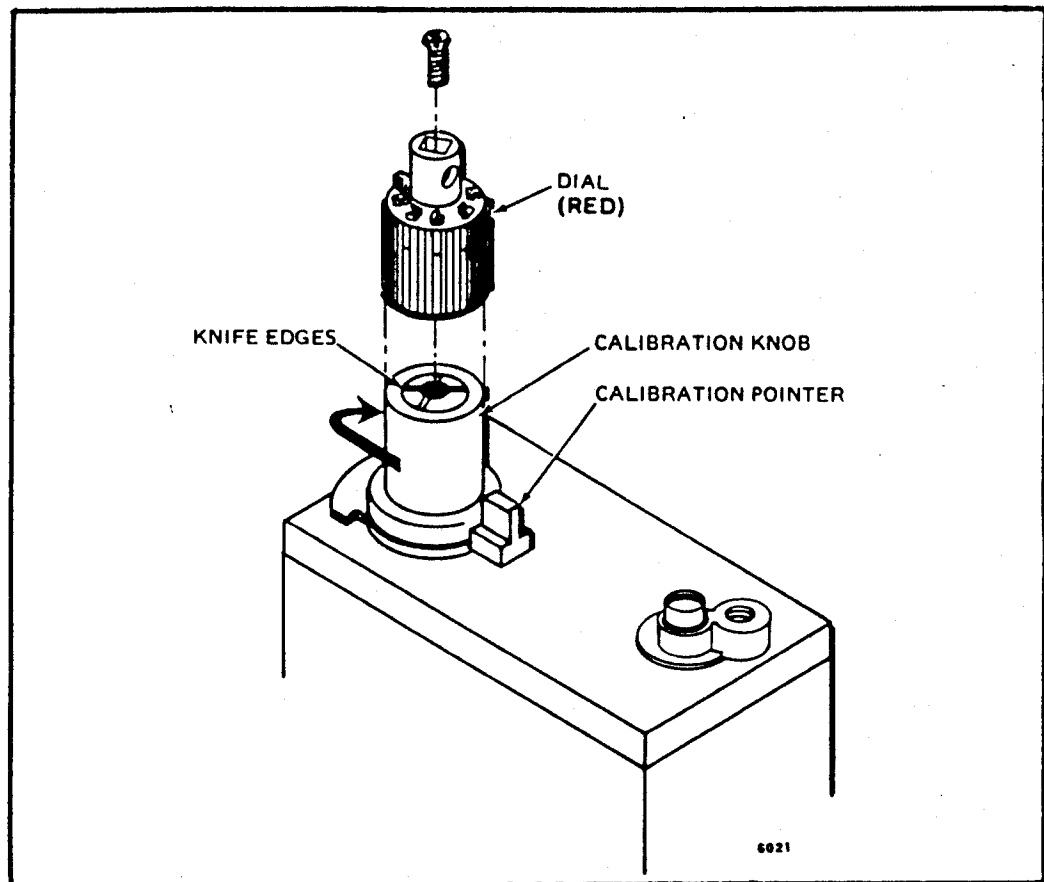

Fig. 24—Recalibration of V500 with dial on operator.
2. Start the burner and remove the temperature dial and screw (Fig. 24).